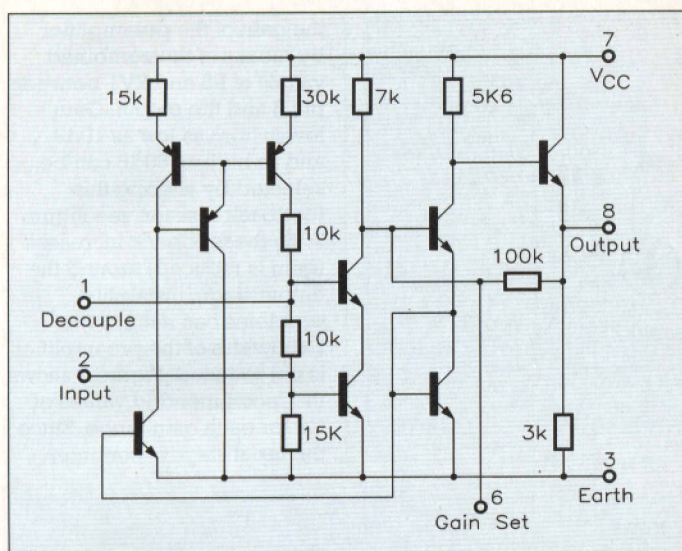
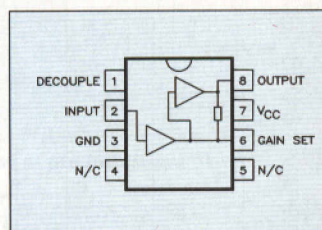

Figure 1. SL561C internal circuit diagram.
Figure 2. SL561C pin connections.
The SL561C is a monolithic Integrated Circuit (IC) which can be used in a number of different low noise preamplifier roles. It contains nine very high performance transistors; and associated biasing components, see Figure 1. All this circuitry is held in an 8-pin DIL (Dual-In-Line) package as shown in Figure 2. The absolute maximum ratings and electrical characteristics of the IC are detailed in Table 1. Its high gain, low noise design makes it suitable for use in audio and video systems at frequencies up to 6MHz. Noise performance is optimised for source